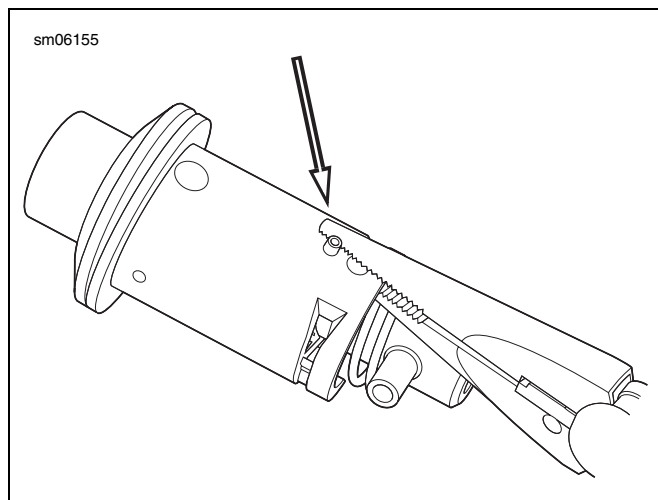

Figure 4. Push Out Pin
4. See Figure 4. Press the pin out of the lock bezel and remove the lock assembly from the bezel.